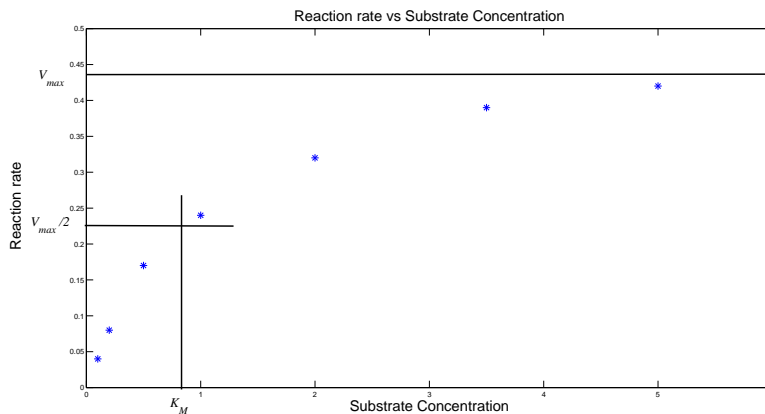

Figure 1.1 Graphical estimation of V_{max} and K_m
- 1.3** The plot indicates that the relationship between the reaction rate and the substrate concentration goes to saturation in a M-M-like behaviour, see Fig. 1.1. V_{max} and K_m are estimated as shown in the plot.